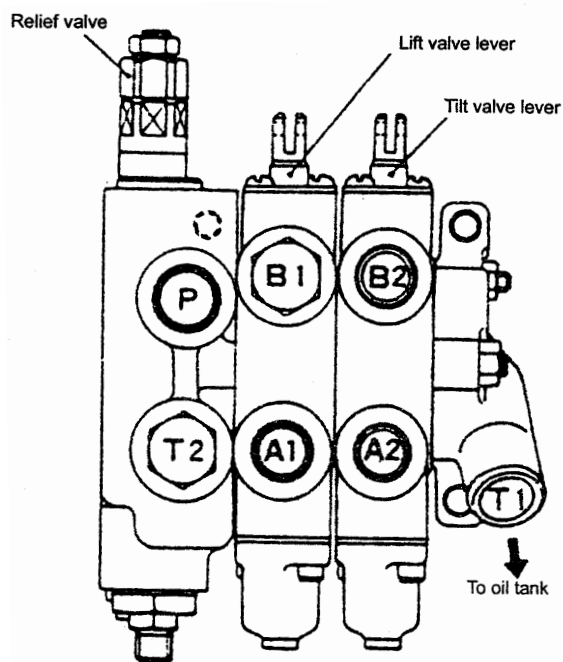

Fig6.2 Control valve
6.3 Control valve & flow divider (Fig6.2)